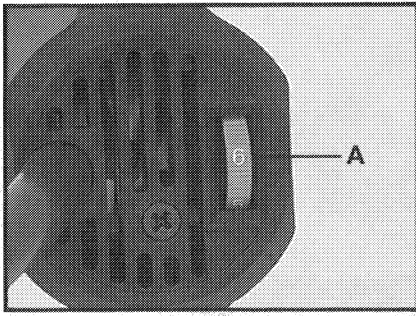

Fig. 1A
Speed is adjusted by turning thumbwheel (A), Fig. 1A. Thumb-wheel position #1 provides the slowest operating speed (2500 OPM) and position #6 the fastest (6000 OPM). Speed may be changed while motor is running or while it is stopped.